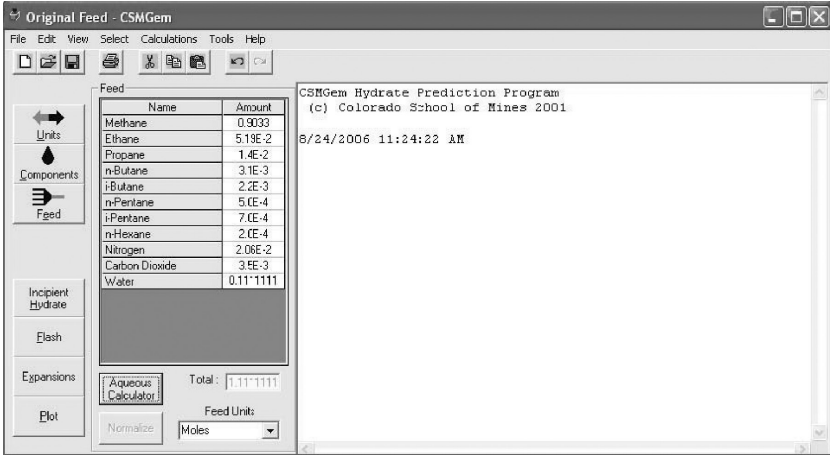

FIGURE A.1 Layout of feed screen for fluid composition input.
2. Feed menu opens automatically. Change the feed units to “mole fraction”. Input the above composition with the exception of water (Figure A.1)